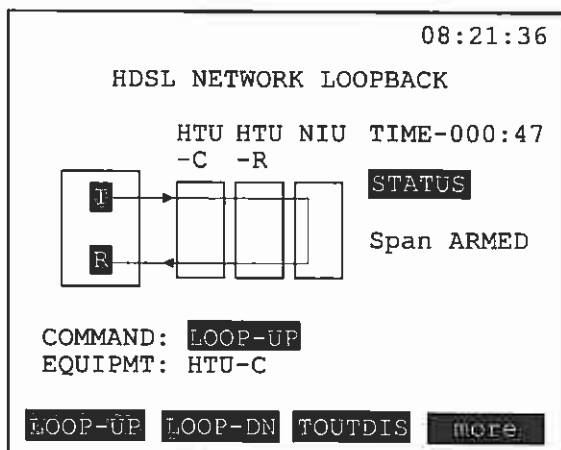

Figure 13 HDSL NIU Loopback
After sending the arming code, the span is assumed to be armed and ready to receive loopback commands. BERT and error Injection testing verify the NIU loop up. If verified Figure 13 appears showing the NIU in loopback. If NIU loop up is not verified, the NIU remains in through mode.
The following describes Figure 13, HDSL NIU Loopback.
- The network boxes are labelled: HTU-C, HTU-R, NIU. When you successfully loop up a network element, the graphic updates. For example, Figure 13 shows a loopback at the NIU.